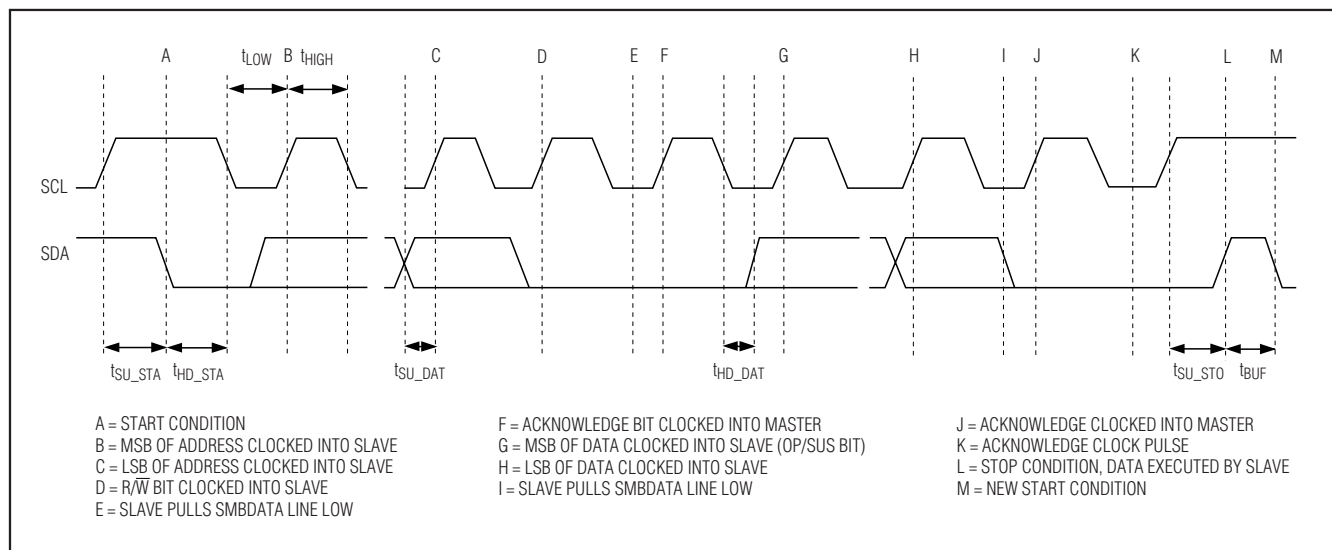

Figure 8. I²C Timing Diagram
The I²C serial interface consists of a serial-data line (SDA) and a serial-clock line (SCL). Standard I²C write-byte commands are used. Figure 8 shows a timing diagram for the I²C protocol. The MAX8821 is a slave-only device, relying upon a master to generate a clock signal. The master (typically a microprocessor) initiates data transfer on the bus and generates SCL to permit data transfer. A master device communicates to the MAX8821 by transmitting the proper 8-bit address followed by the 8-bit control byte. Each transmit sequence is framed by a START (A) condition and a STOP (L) condition. Each word transmitted over the bus